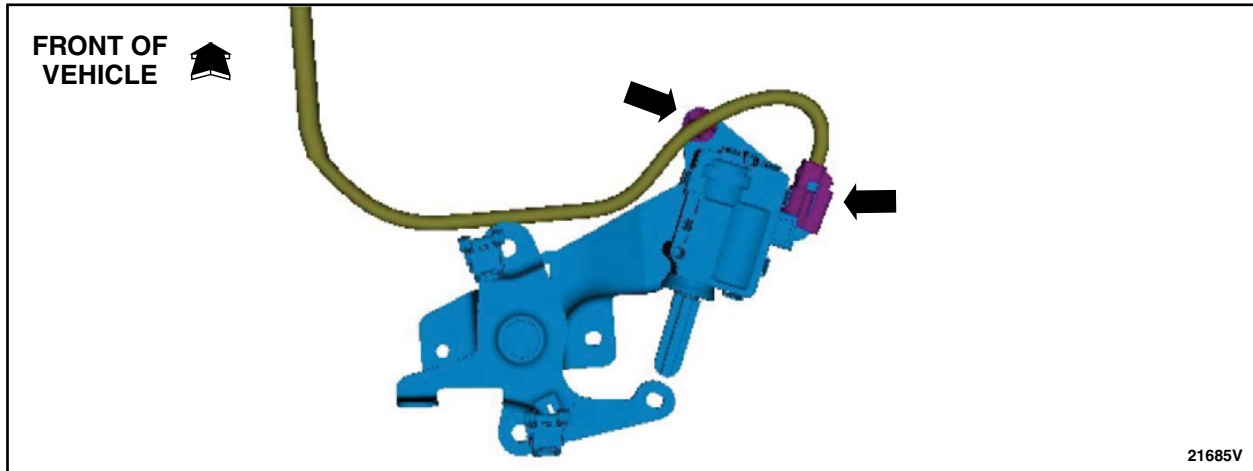

FIGURE 49
68. Reconnect the electrical connector and the push pin retainer. See Figure 49.